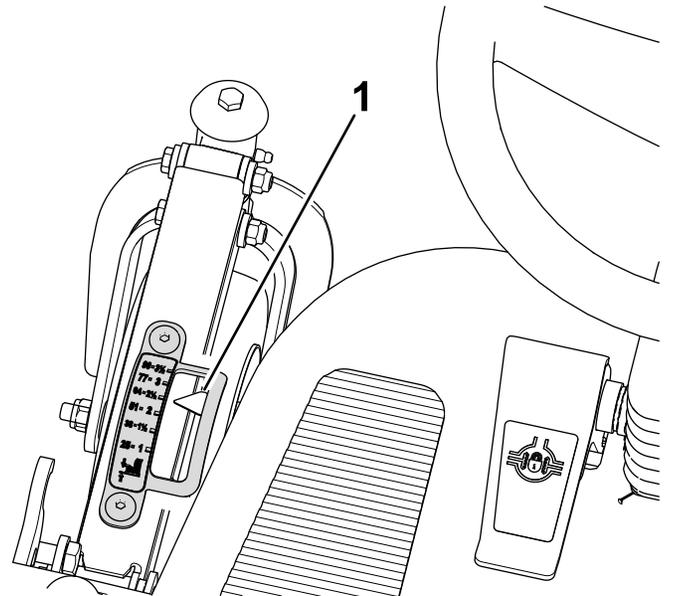

Figure 102
1. Adjust the height of cut to the 64 mm (2-1/2 inch) position (Figure 102).